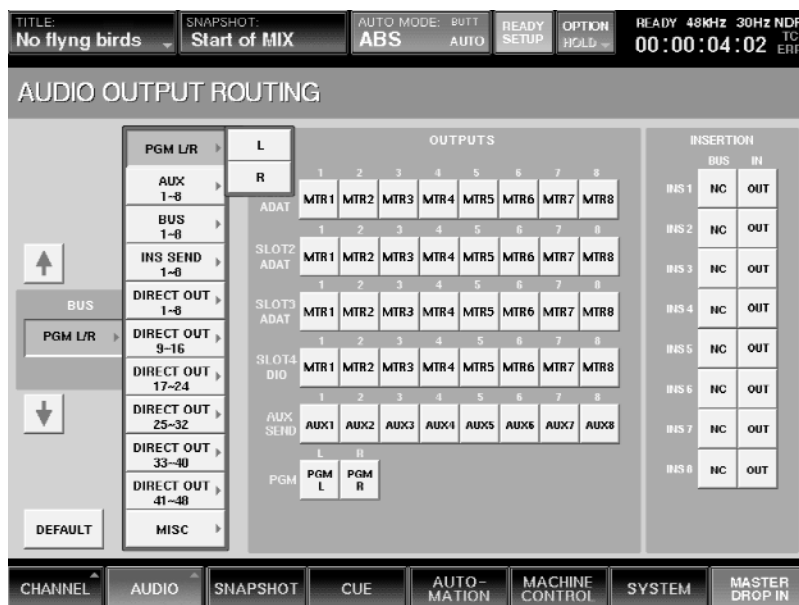

Figure 21
- 3 If you press one of the BUS selections a second time, a second drop-down menu will appear. This menu lists all of the independent sources within each group. For example, press the PGM L/R button and you will see each output (L and R) separately. (See Figure 21)